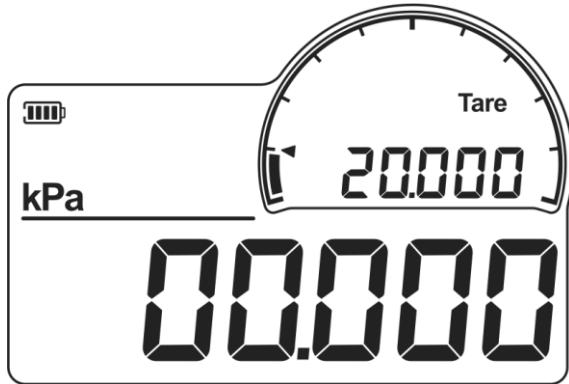

Figure 9 Tare is enabled
2. At this moment, short press the Zero button, and the gauge will capture the current pressure value as the Tare value, which will be displayed in the sub display area, and the current pressure value will be zeroed, as shown in Figure 9. Short press the zerobutton again to turn off the Tare function. When the Tare is enabled, long press the Unit button to switch to other setting items in the sub display area, then Tare icon will flash, indicating that Tare is enabled.